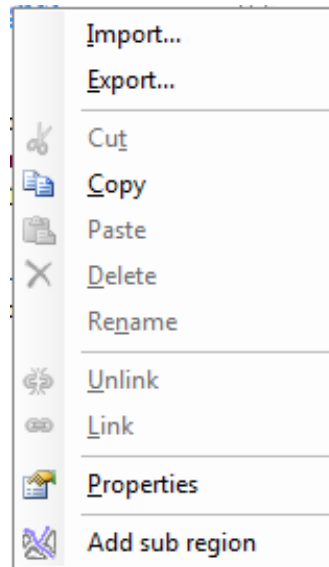

Figure 3.21: The context menu on the region level within the project explorer.
The context menu of the region level within the project explorer is shown in Figure 3.21. It contains the following choices:
- ◇ All other project items have context menus similar to the context menu on the region level as shown in Figure 3.21